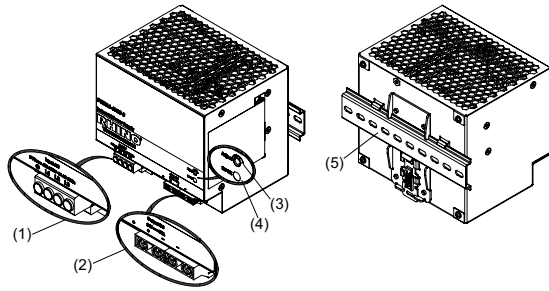

Figure 1
## 2. Device description (Fig. 1)
### 5.1. Input connection (Fig. 1, Fig. 5)
### 5.2. Output Connection (Fig. 1 (2))
Use the "+" and "-" screw connections to establish the 24 VDC connection. The output provides 24 VDC. The output voltage can be adjusted from 24 to 28 VDC on the potentiometer. The green LED DC OK displays correct function of the output (Fig. 1 (4)). The device has a short circuit and overload protection and an overvoltage protection limited to 35 VDC.